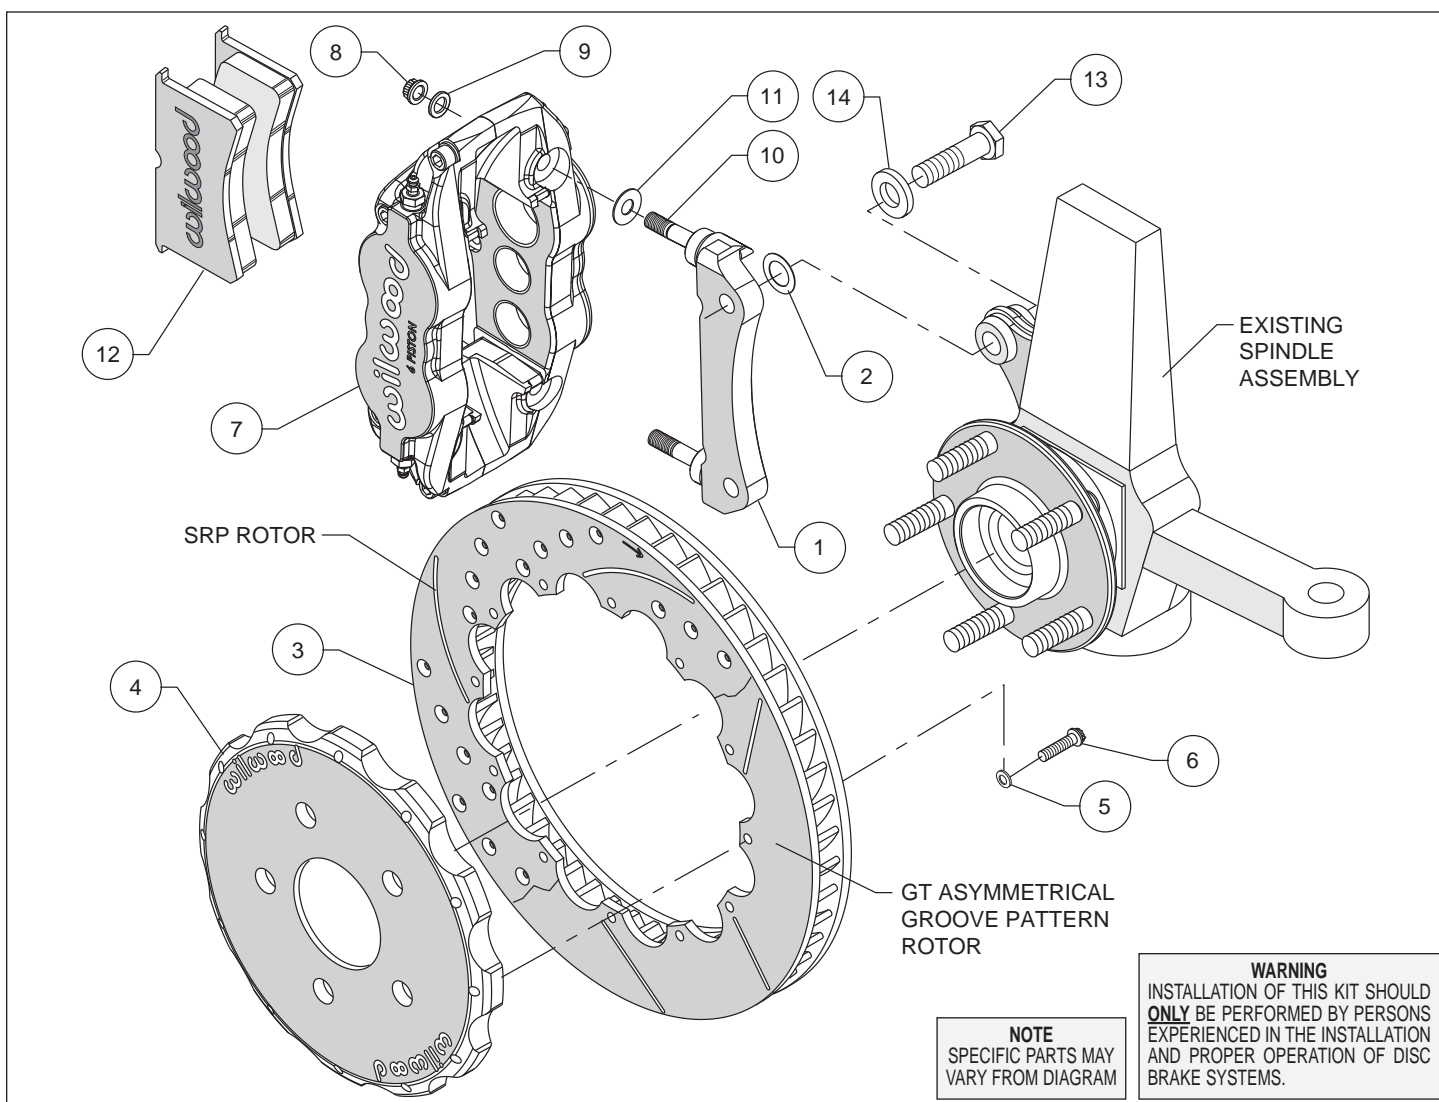
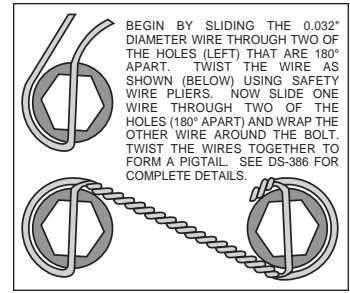

Figure 1. Typical Installation Configuration
Figure 3. Safety Wire Diagram
Assembly Instructions (numbers in parenthesis refer to the parts list and Figure 1 on the preceding pages):
- The caliper mount bracket (1) should initially be installed with clean, dry threads on the mounting bolts. Orient the bracket, as shown in Figure 1 and install using bolts (13) and washers (14). Initially place one .029" thick shim (2) on each bolt between the bracket and upright, Figure 1. Temporarily tighten the mounting bolts. **NOTE:** *The bracket must fit squarely against the mount bosses on the upright.* Inspect for interference from casting irregularities, machining ridges, burrs, etc. Later, after the caliper alignment has been checked, the mount bolts will be secured using red *Loctite*® 271.
- Orient the rotor (3) and the hat (4) as shown in Figure 1 and Photo 1. Attach rotor to hat using bolts (6) and washers (5). Using an alternating sequence, apply red *Loctite*® 271 to the threads, and torque to 155 **in-lbs**. For an added measure of security, the bolts may be safety wired using standard 0.032 inch diameter stainless steel safety wire as shown in Figure 3. Refer to Wilwood's data sheet DS-386 (available at www.wilwood.com/Pdf/DataSheets/ds386.pdf) for complete safety wire installation instructions.
- NOTE:** *This kit contains distinct right and left hand calipers that must be mounted in a specific direction, as described below.* Lubricate the caliper mounting studs (10) with lightweight oil. Initially place one .035" thick shim (11), on each stud as shown in Figure 1 and Photo 2. Mount the caliper (7) onto the bracket (1) using lock nuts (8) and washers (9), Figure 1. Ensure that the caliper is mounted so that the largest pistons are at the rotor exit end of the caliper, in relation to the direction of rotor rotation. Temporarily tighten the lock nuts and view the rotor through the top opening of the caliper. The rotor should be centered in the caliper, Photo 3. If not, adjust by adding or subtracting shims (2) between the bracket and the upright. Always use the same amount of shims on each of the two mounting bolts. Once the caliper alignment is correct, remove the bracket mounting bolts (13) one at a time, apply red *Loctite*® 271 to the threads, and torque to 77 ft-lb.